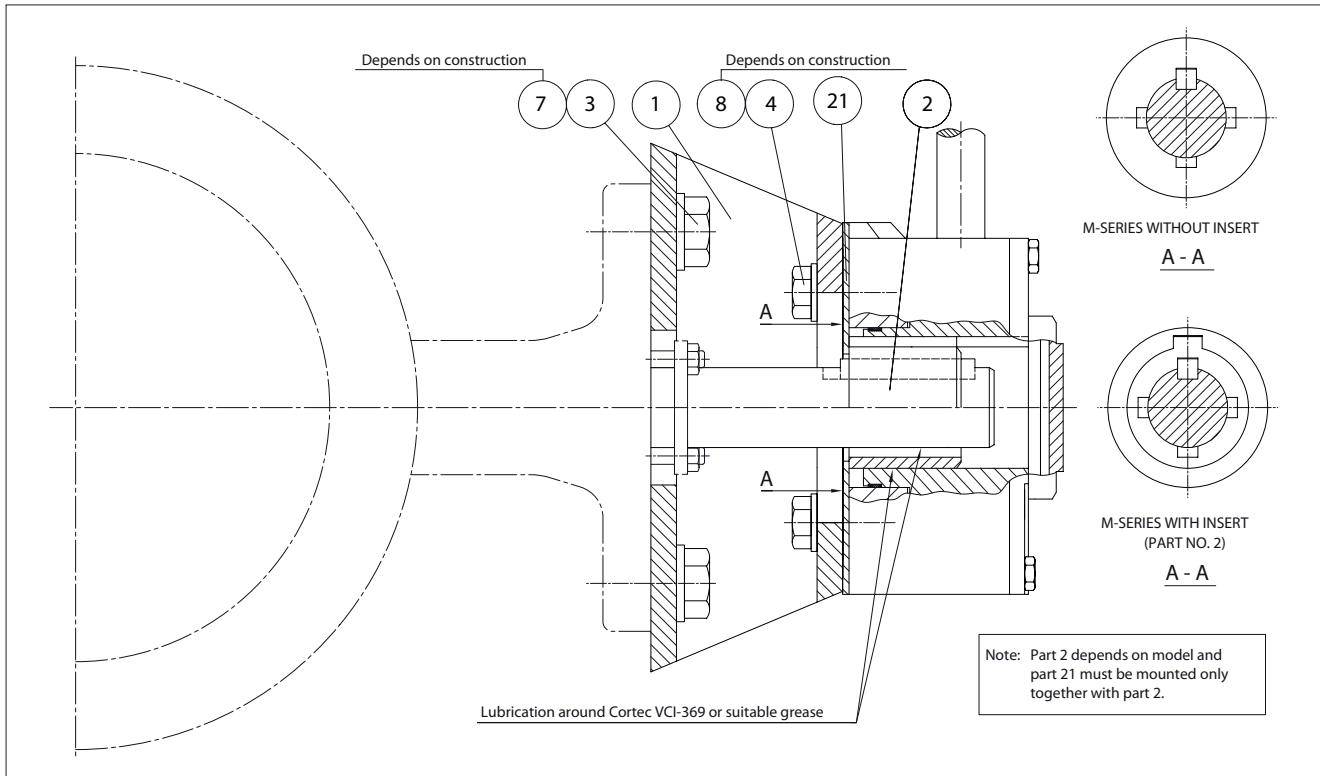

Fig. 2 Gearbox perpendicular to the valve
7. Coat the valve stem and outer surface of the bushing (2) and actuator bore with a suitable grease to aid fitting. The plate (21) should be installed, when the bushing (2) is used, between the valve flange mounting face. This plate locks up the insert.
8. Mount the gearbox perpendicular to the valve (see Figure 2).